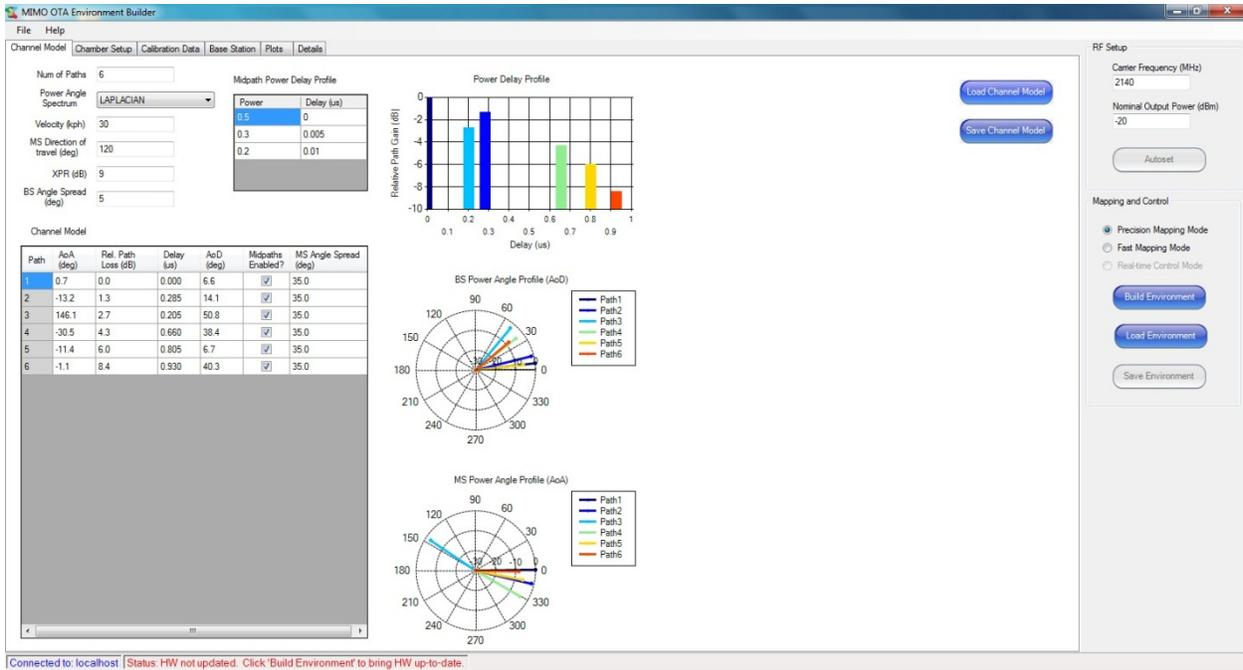

Figure 3-15: Main Window – Channel Model Tab
- The *Channel Model* tab updates to reflect the newly selected model, as shown in Figure 3-15.